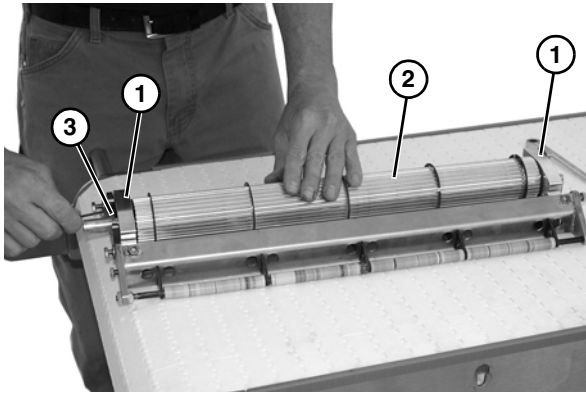

Figure 41
9. Center shaft assembly, so that there is equal space between each bracket (**Figure 41, item 1**) and roller (**Figure 41, item 2**). Tighten set screws (**Figure 41, item 3**).